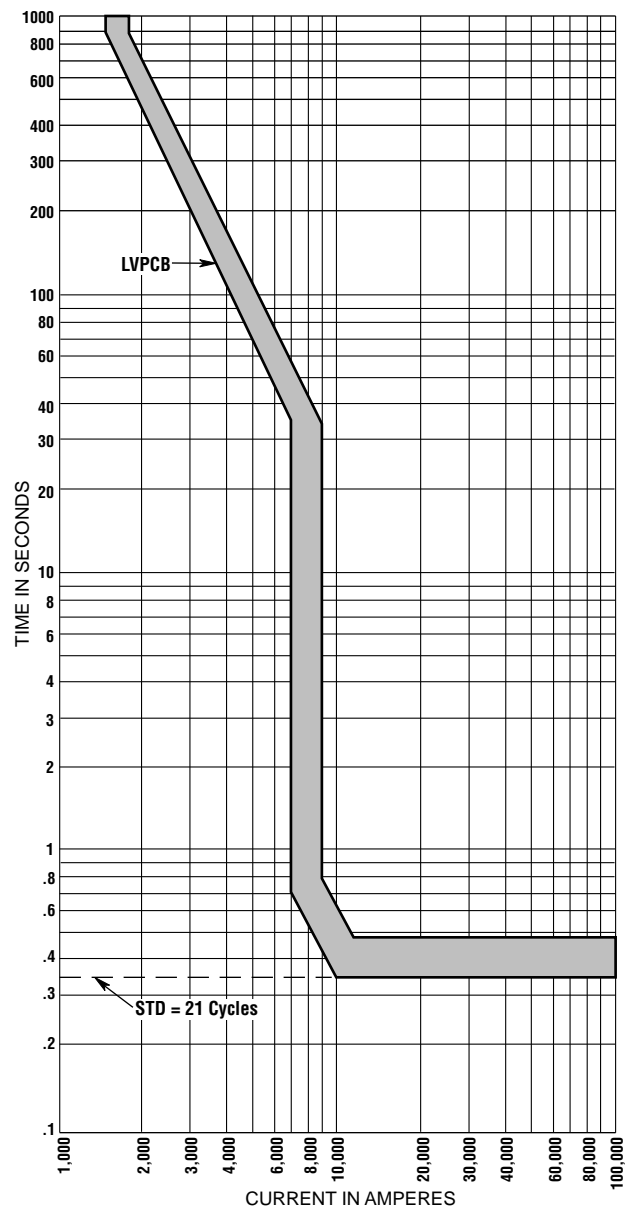

Figure 5
**5. Short Time Delay And Instantaneous Override -** Circuit breaker short-time-delay (STD) mechanisms allow an intentional delay to be installed on Low Voltage Power Circuit Breakers (Figure 5). Short-time-delays allow the fault current to flow for several cycles, which subjects the electrical equipment being protected to unnecessarily high mechanical and thermal stress. Most equipment ratings, such as short-circuit ratings for bus duct and switchboard bus, do not apply when short-time-delay settings are employed. The use of short-time-delay settings on circuit breakers requires the system equipment to be reinforced to withstand the available fault current for the duration of the short-time-delay. Ignoring equipment ratings in relation to the protective device opening time and let-thru characteristics can be disastrous.